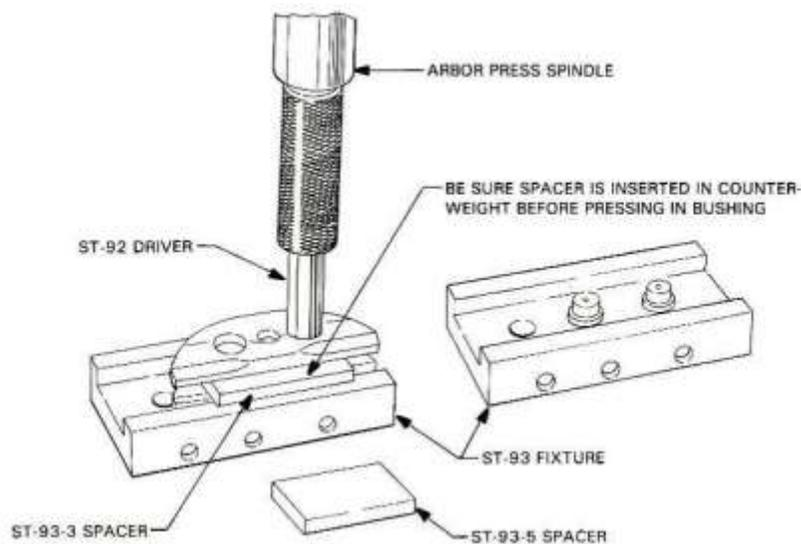

Figure 23
- (b) Install the applicable Depth Control Spacer ST-93-3 or ST-93-5 (Figure 23) in the counterweight bushing bore.
- (c) Use the Arbor Press Spindle and Counterweight Bushing Driver ST-92 to press each bushing out from one side of the counterweight. Refer to Figure 23. Discard the bushings.